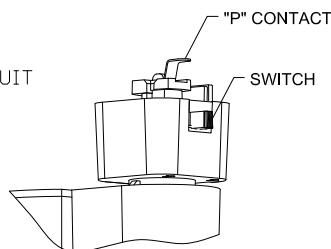

FIG. 3
1. Raise "P" CONTACT (labeled "P") to high position by pulling CONTACT as high as stop permits (See FIG.3).